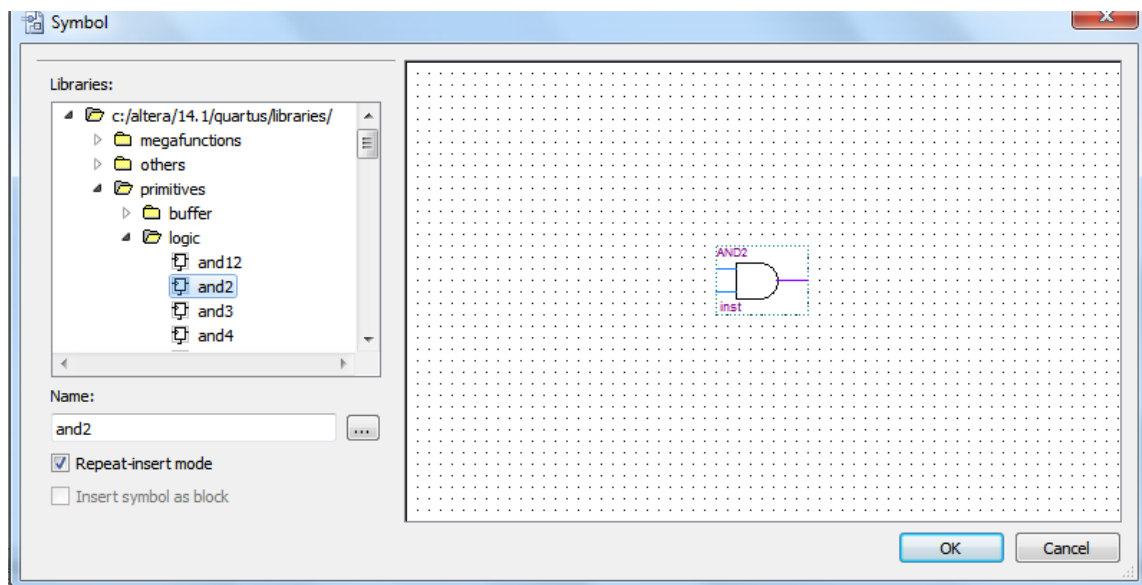

Fig. 5: Choosing a symbol from library
- 2) Click on  icon and expand the **library** directory and then expand **primitives** directory. In primitives, expand **logic** directory and choose **and2** gate as shown in Fig. 5.